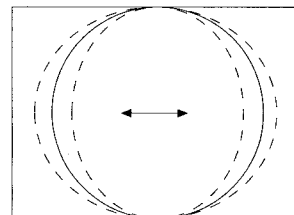

Fig. 2
- d) Adjust the horizontal location to obtain picture centering (fig. 2).